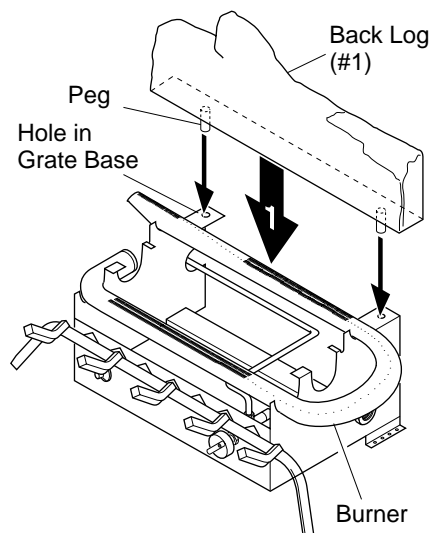

Figure 19 - Installing Back Log (#1)
1. Locate pegs on the bottom of back log (#1). Slide these pegs into the holes in the grate base behind the burner (see Figure 19).